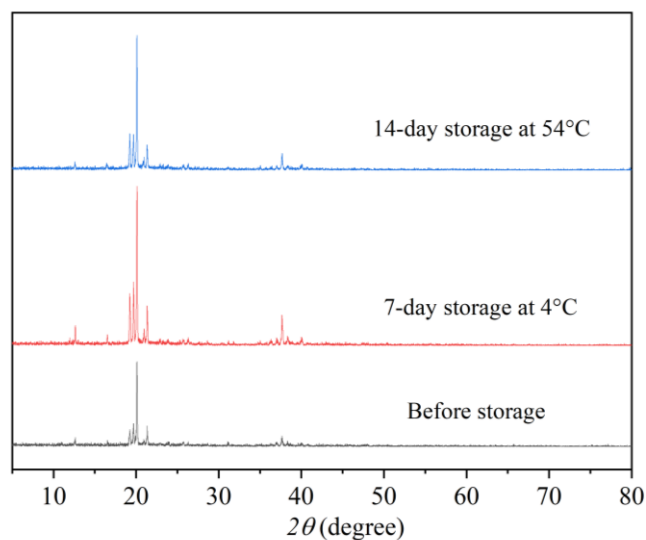

Fig. S1 X-ray diffraction patterns of Rot-SND before and after storage
4. X-ray diffraction patterns of Rot–SND before and after storage (Fig. S1)